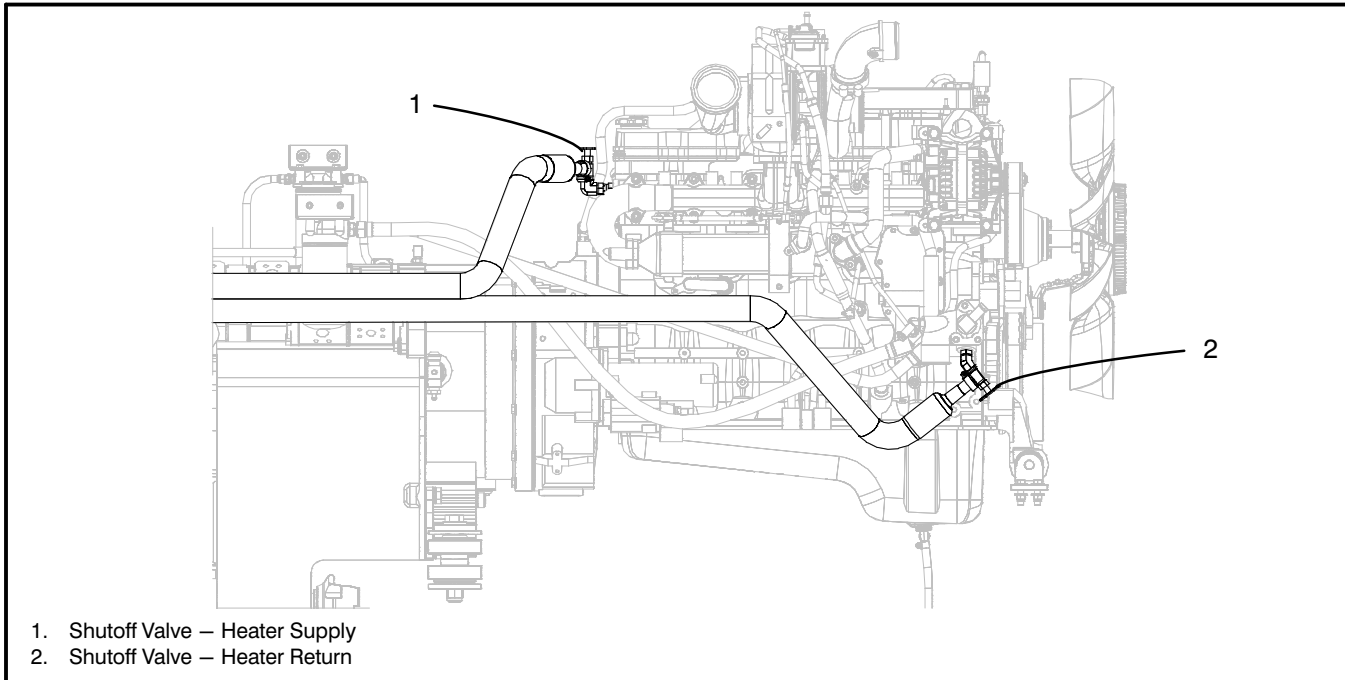

Figure 1–49
This cab heater uses antifreeze circulating through the unit to provide heat. Antifreeze is stored in a reservoir mounted on the left side of the upper revolving frame. This antifreeze is heated by a diesel fired heater/pump and circulated through the heat exchanger in the cab. The diesel fuel tank, for the system, is mounted on the left side of the upper revolving frame. Refer to Figure 1—48. Diesel fuel should be #1, #2, or arctic. The fuel system is equipped with an inline filter and should be changed every 2,000 hours of operation or annually, whichever occurs first. The antifreeze used should be the same type used in the crane's engine. Refer to engine manufacturer's manual for proper anti-freeze selection.
2. With the engine running, press the heater switch or if crane is equipped with air conditioning, press the top part of the heater/air conditioner selector switch to turn the heater on. Refer to Figure 1—40.
This cab heater uses engine coolant circulating through the unit to provide heat. Normally the engine coolant circulates through the heater in the cab regardless of whether the heater switch is turned on or not. During warm weather conditions, the operator may wish to shutoff the flow of hot engine coolant to the heater to reduce the temperature in the cab. Shutoff valves are on the engine to perform this function. Refer to Figure 1–49.
1. With the engine running, press the heater switch or if crane is equipped with air conditioning, press the top part of the heater/air conditioner selector switch to turn the heater on. Refer to Figure 1–40.